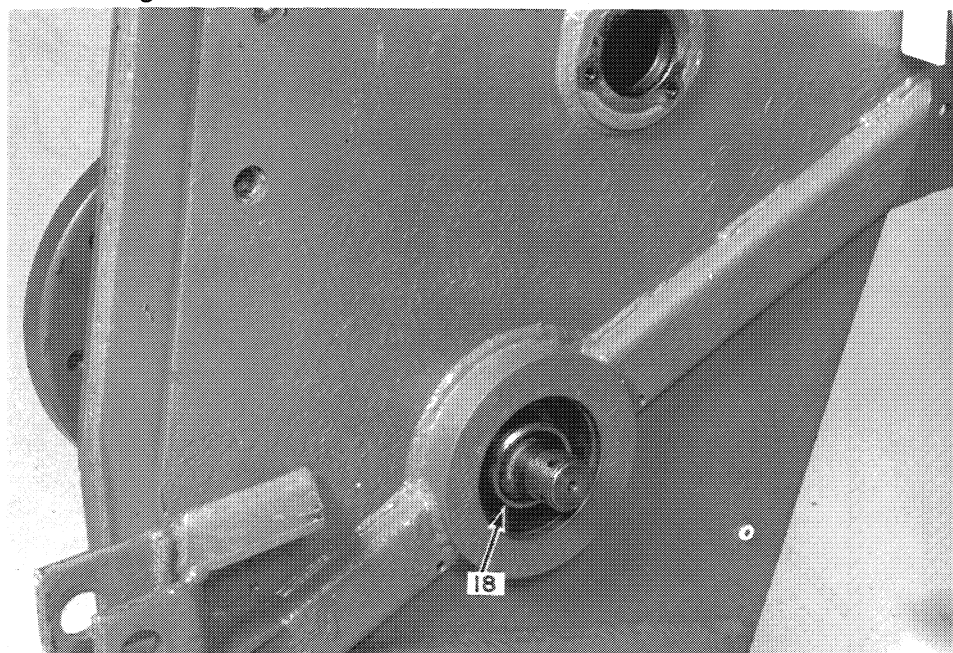

FIGURE 1-15
Install the spacer (18) on the axle with the chamfer away from the retaining ring and axle hub. See Figure 1-15.